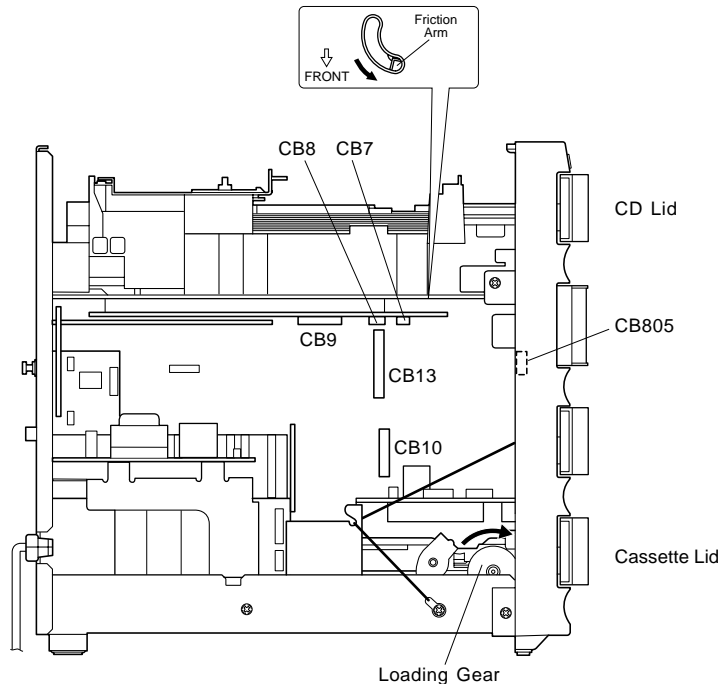

Fig. 2
- b. Push the Friction Arm ( the bottom side of the CD Mechanical Unit ) with the Ejecting Tool or a tool like as shown in Fig. 2.
- c. Pull the Tray forward approx. 5cm ( 2" ) and remove the CD Lid in Fig. 2.
- e. Disconnect the Flat Connecting Cables ( CB9 ) and remove 2 connectors ( CB8 and CB7 ) in Fig. 2
- a. Rotate the Loading Gear, then open the Tray and remove the Cassette Lid in Fig. 2.
- c. Disconnect the flat connecting cables ( CB10 and CB13 ) and remove a connector ( CB805 ) in Fig. 2.
- k. Connect the flat connecting cables ( CB10 and CB13 ) and remove a connector ( CB805 ) in Fig. 2.